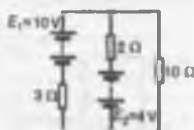

Figure 13.26
- 3 Use the superposition theorem to find the current in each branch of the network shown in Fig. 13.26